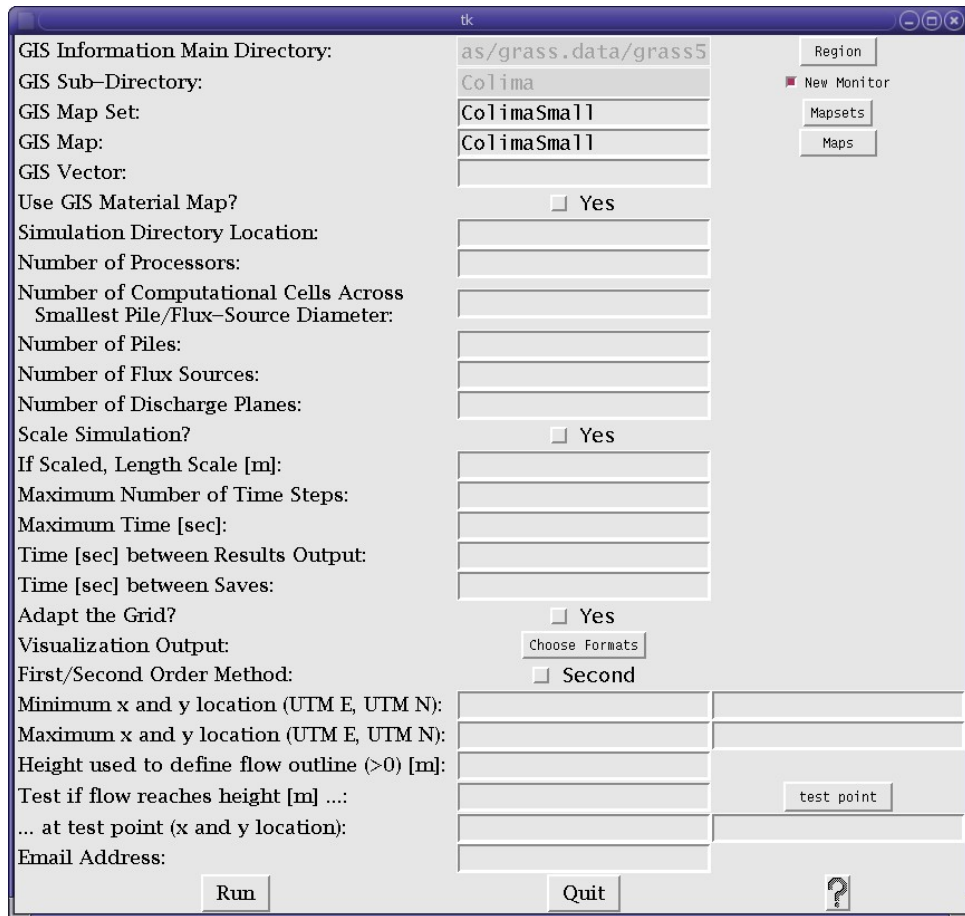

Figure 3.11: Python Interface with GRASS functions activated
2. After the python GUI pops up (figure 3.11), input simulation parameters as usual.